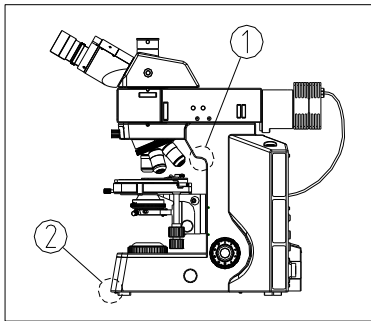

Fig.1
(1) As the microscope is a high precision instrument, always operate it with care, and avoid physical shake during the operation.
(2) Do not expose the microscope in the sun directly, either not in the high temperature, damp, dust or acute shake. Make sure the worktable is flat and horizontal. Following environment is required when operating: Indoor temperature: 5°C ~ 40°C, Max relative humidity: 80%.
(3) When moving the microscope, use one hand to hold its arm ① and the other hand to hold its front base ②, and lay it down carefully (See Fig. 1).